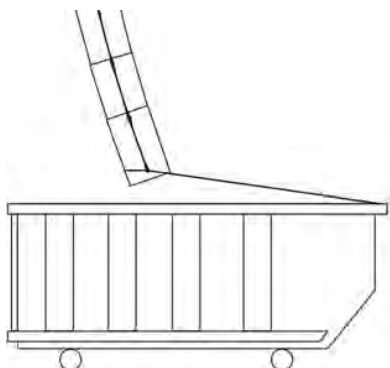

Fig. 22 Gap above container.
2. Ensure that the discharge end of the chute is located above and not inside the container. A gap of 2 to 5 feet between the discharge end of the chute and the container is recommended. See Fig. 22